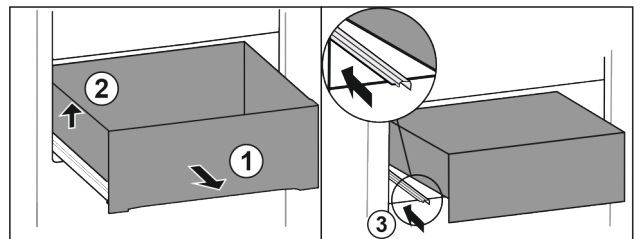

Fig. 22
- ▶ Pull out drawer as far as it will go. Fig. 22 (1)
- ▶ Lift drawer on the left. Fig. 22 (2)
- ▶ Insert left rail. Fig. 22 (3)